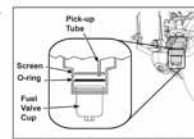

Figure 31. Pick-up Tube and Screen Orientation.
6. Check the O-ring, replace if damaged. Check the screen for blockage or damage, replace if necessary. The new screen must be located on the pick-up tube as shown in Figure 31.
7. Place the O-ring on the screen followed by the fuel valve cup. Rotate the fuel valve cup until it is finger tight. Turn with a wrench 1/2 to 3/4 full turn. See Figure 31.